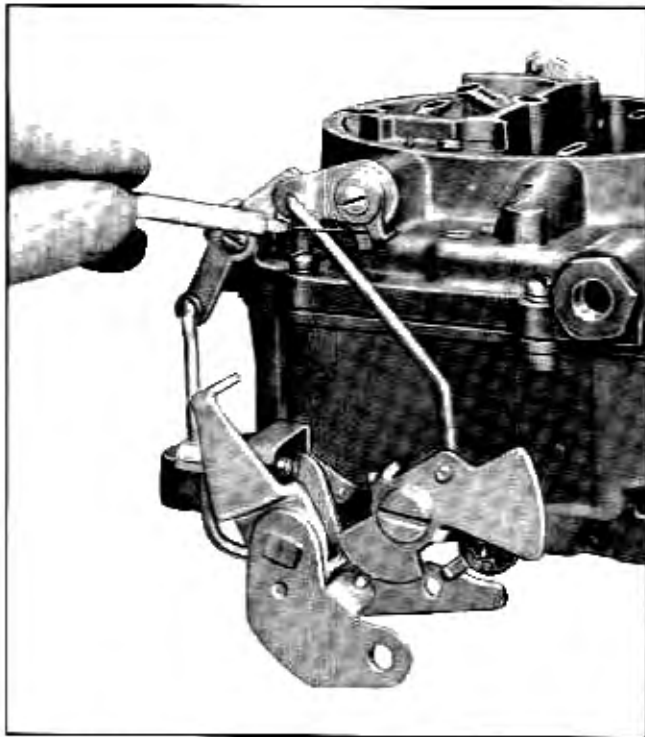

Fig. 6B-96 Checking Choke Shaft Lever Adjustment
2. There should be .010" clearance (Gauge J-5640) between lug on outer choke shaft lever and stop on inner choke shaft lever (Fig. 6B-96).